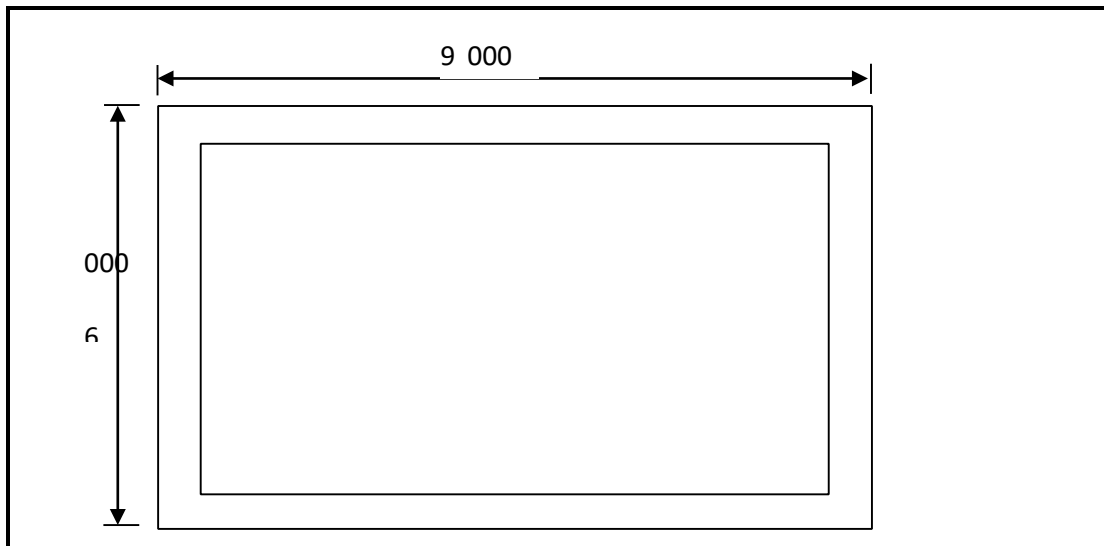

FIGURE 2.3
2.3 **FIGURE 2.3** shows the foundation wall of a building. The width of the wall is 220 mm and the height 450 mm.